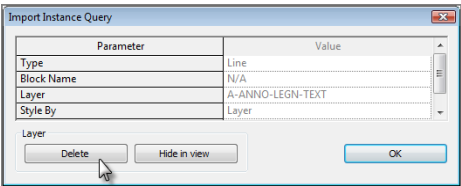

FIGURE 11.57: You can query items in the CAD import. You can also delete items.
- 5. After you select the line, Revit reports information to you about that line. You're also given the chance to delete the layer. Click **Delete**, as shown in Figure 11.57.